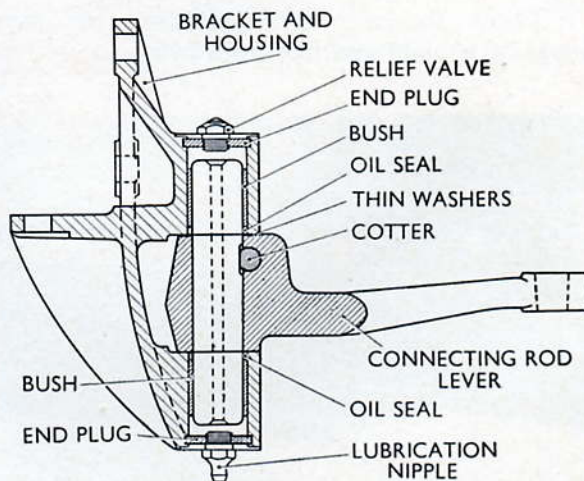

Fig. M.9. Steering relay and connecting rod lever assembly
1. Install two new oil seals, lubricate and fit the shaft through the lower housing, so that the cotter flat is located as shown in Fig. M.9.
3. Install sufficient shims (Fig. M.9), to take up end movement of the lever between the bracket bosses. Carefully tap the shaft through the shims
4. Fit the plugs to the housings and secure by staking at four points. Assemble the lubrication nipple and relief valve as shown in Fig. M.9.